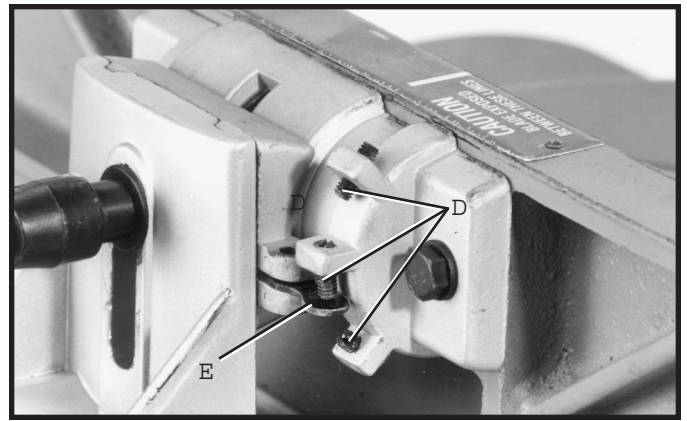
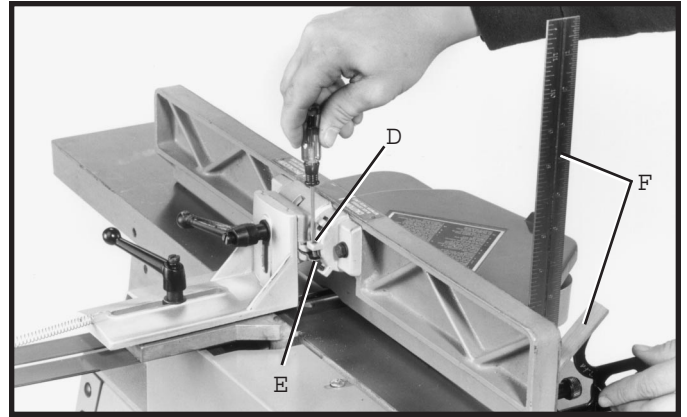

Fig. 37
Fig. 38
3. The fence on the jointer features adjustable positive stops (D) Fig. 37, and a stop link (E) at 90 degrees right and left. Check the fence angle at 90 degrees with a square (F) as shown in Fig. 38. If an adjustment is neces-
4. Repeat this procedure to check the positive stops (D) Fig. 37, at 45 degrees right and 45 degrees left